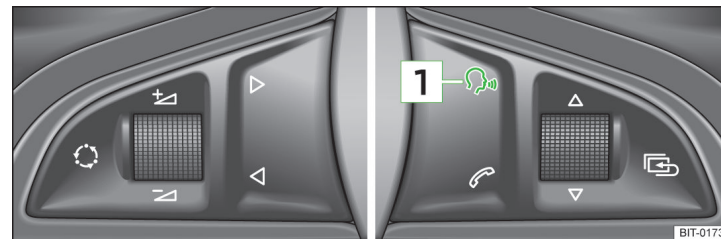

Fig. 129 Multifunction steering wheel
By briefly pressing the button **1** » Fig. 129 on the multifunction steering wheel.
The dialogue can be started at any time by pressing the button **1** » Fig. 129 on the multifunction steering wheel¹⁾.
If the system is currently playing a message, the message that is currently being played must be terminated by pressing the button **1** » Fig. 129 on the multi-function steering wheel.
- by briefly pressing the button **1** » Fig. 129 on the multifunction steering wheel.